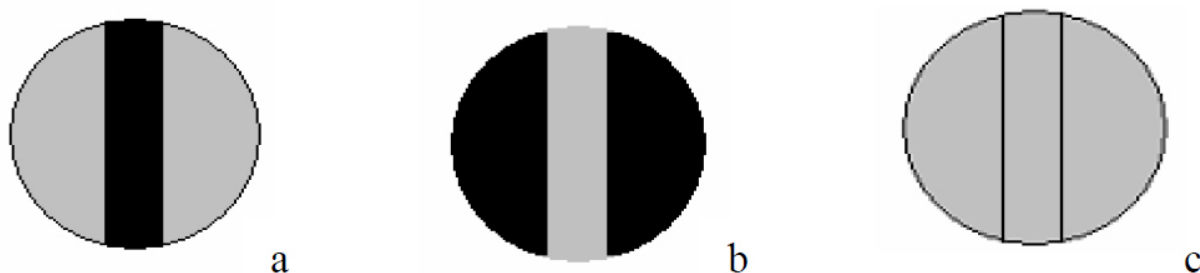

Fig.2
Normally the polarizer and the analyzer are placed so that their polarization planes are parallel or perpendicular to each other. When no sample has been put in the test tube the triplex viewing field should be uniformly bright in the parallel case (see fig. 2 c) or uniformly dark in the perpendicular case. To tare the system rotate the scale knob (8), controlling the scale (7) and the polarization analyzer (5), until all three fields has the same light intensity as in fig. 2 c.
*Fig. 2 a,b) The viewing field after having inserted the liquid to be tested and before adjusting the polarization analyzer. c) The viewing field when no sample has been inserted. After having rotated the polarization analyzer. The illumination intensity is here equal.*